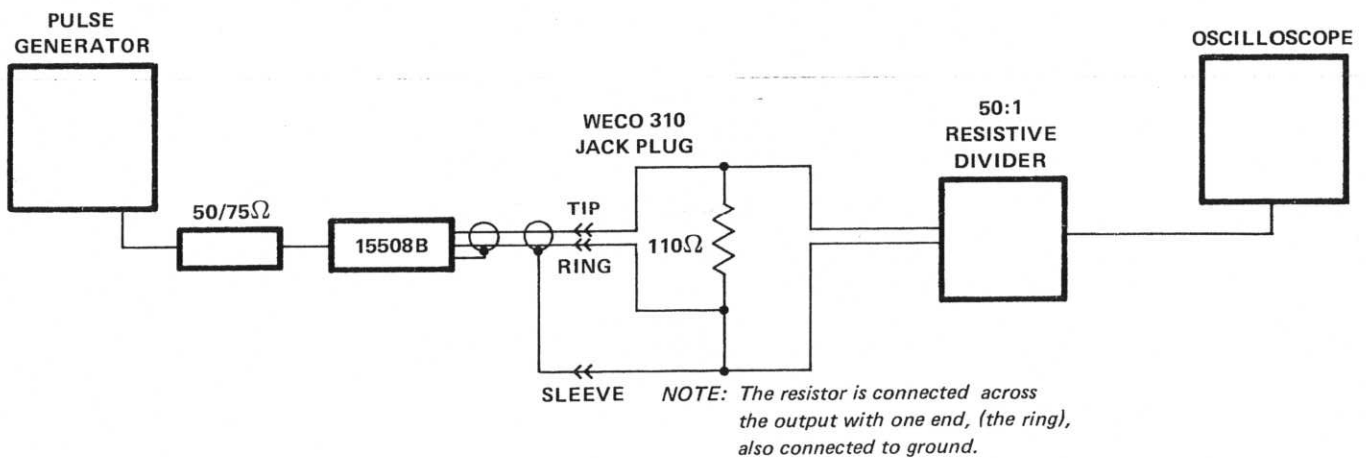

Figure 5-1 Equipment Connection
1. Connect the equipment as shown in Figure 5-1.